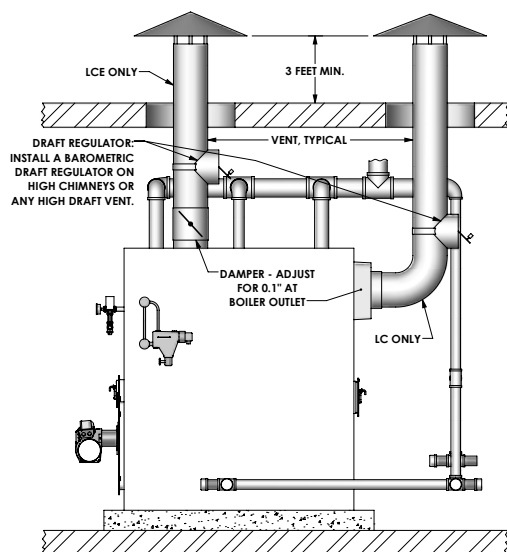

Figure 1.3: Vent Termination, Typical
7. The vent diameter and minimum height for stub vents are listed in the Ratings and Dimensions Section of this manual. Always extend vent terminations at least 3 feet above the roof line. See Figure 1.3.